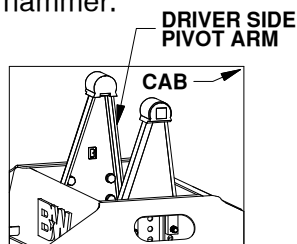
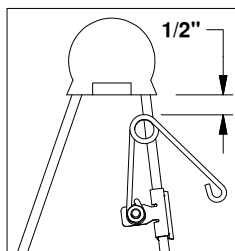

Figure D2:
Figure D3: Driver
2. **Attach kit.** Locate the flange which will be closest to the truck cab on the driver side pivot arm, see Figure D2. The clip should be placed so that when the spring's coil is in the line with the edge of the arm there will be 1/2" of clearance between the bottom of the polyurethane bushing and the top of the spring, see Figure D3. Drive the clip securely onto the flange with a hammer.